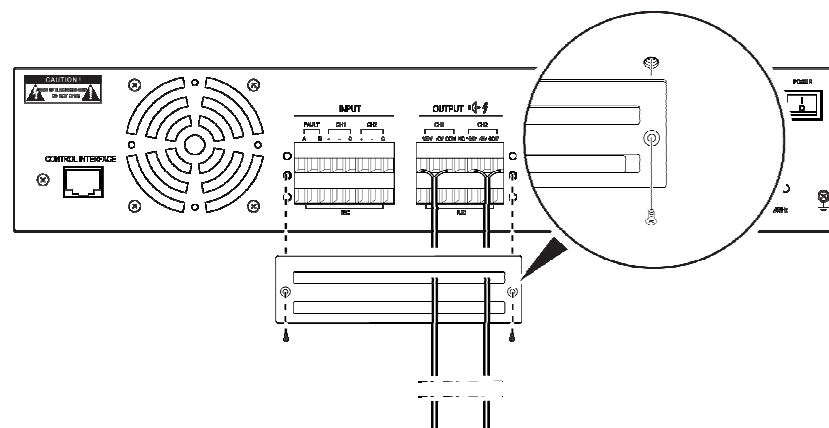

Figure 15 Schematic Diagram of the Protective Audio Input Terminal Cover
- h. Cover the power amplifier terminal with the protective terminal cover and tighten the screws, as shown in Figure 15. This same operation applies to the DCS terminal and related protective cover.